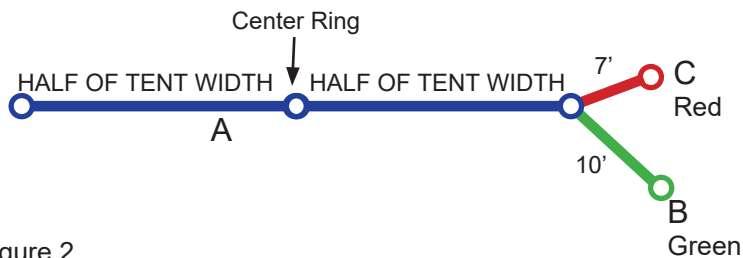

Figure 2
2. The installation layout cable has (3) elements. See Figure 2.